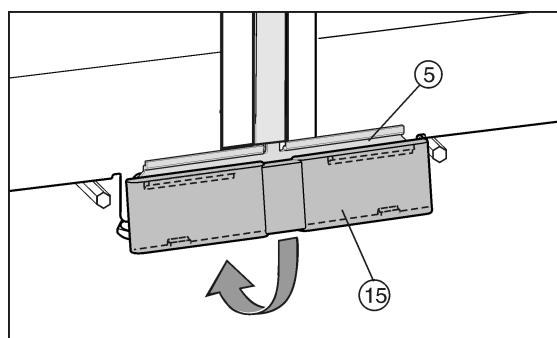

Fig. 29
- ▶ Position the lower cover Fig. 29 (15) from above onto the connecting panel Fig. 29 (5) and snap it down into place.